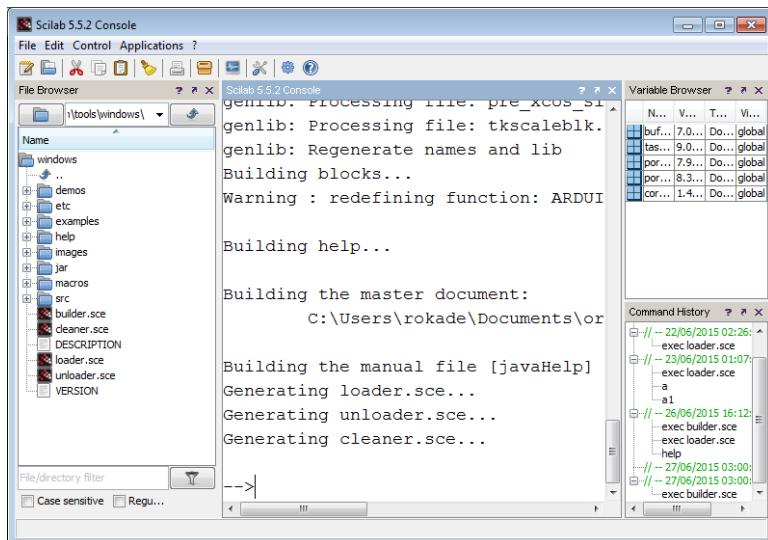

Figure 3.8: Output of builder.sce
4. After the previous step, the Scilab working directory becomes the toolbox folder. See the file browser panel on the left-hand side of the Scilab console, see Fig. 3.8. It will list out the contents of your current working directory. For a check, look for the file builder.sce. If you see this file, then you are in the right directory.
5. Next, type the following command on the Scilab console: exec builder.sce - this will build the toolbox and create a file loader.sce. This step has to be executed only the first time. The output of this step is illustrated in Fig. 3.8.